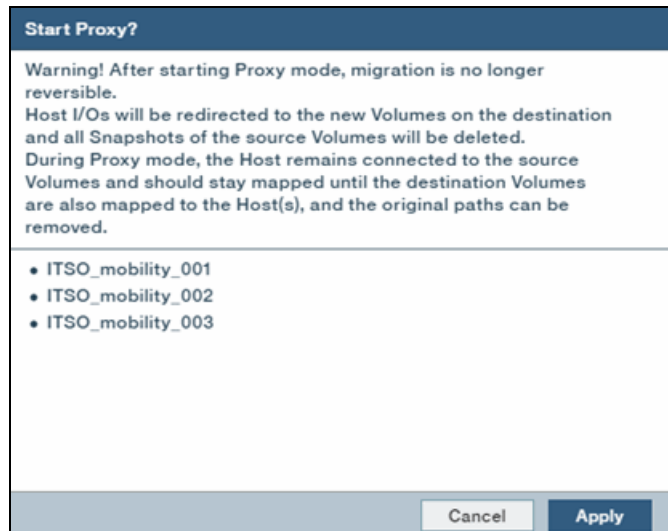

Figure 7-19 Warning on proxy start
- As shown in Figure 7-19, a warning message is displayed, indicating that any source volume snapshots that exist are deleted if the proxy is started. It also describes what will be happening during the Proxy phase.